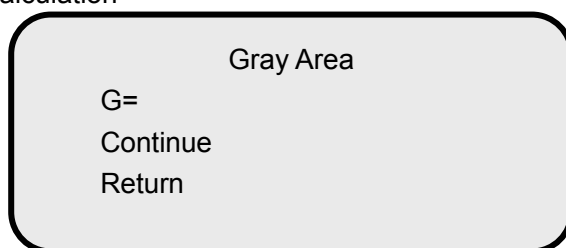

Fig. 9: Gray Area
3. When the cursor stays on **Continue**, press **Enter** key to go to sub menu (Fig. 9). If you want to return to the main menu, press **Reset** key; if you want to return to the superior menu, press till the symbol in front of **Return** becomes and then press **Enter** key.